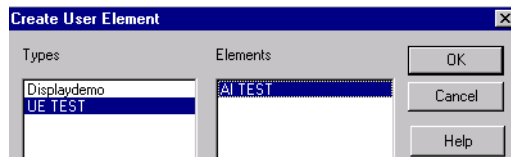

Figure 153. Create User Element
- 3. Select UE TEST as user type, and AI TEST as the user element, Figure 153.